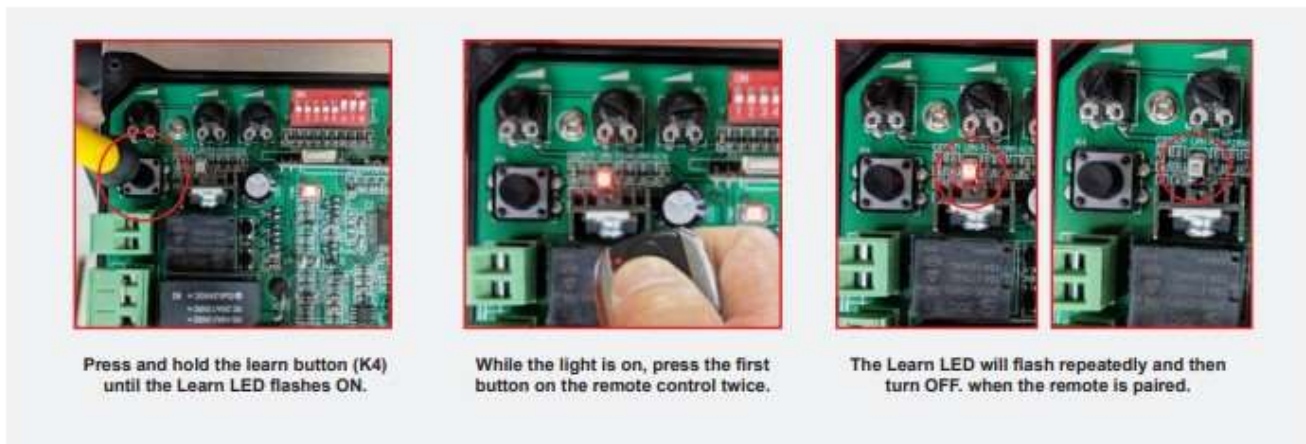

Fig 1
1. Remotes are not operating, or are not paired correctly (Refer fig 1)